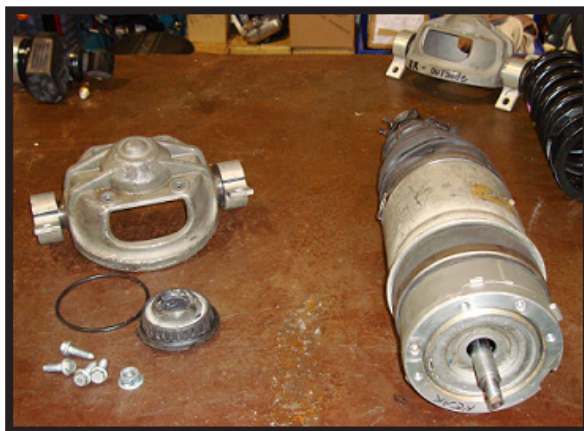

FIGURA 20-2
2. ESTRARRE IL SUPPORTO SUPERIORE IN GOMMA E L'O-RING E SCARTARLI. (FIGURA 20-2)